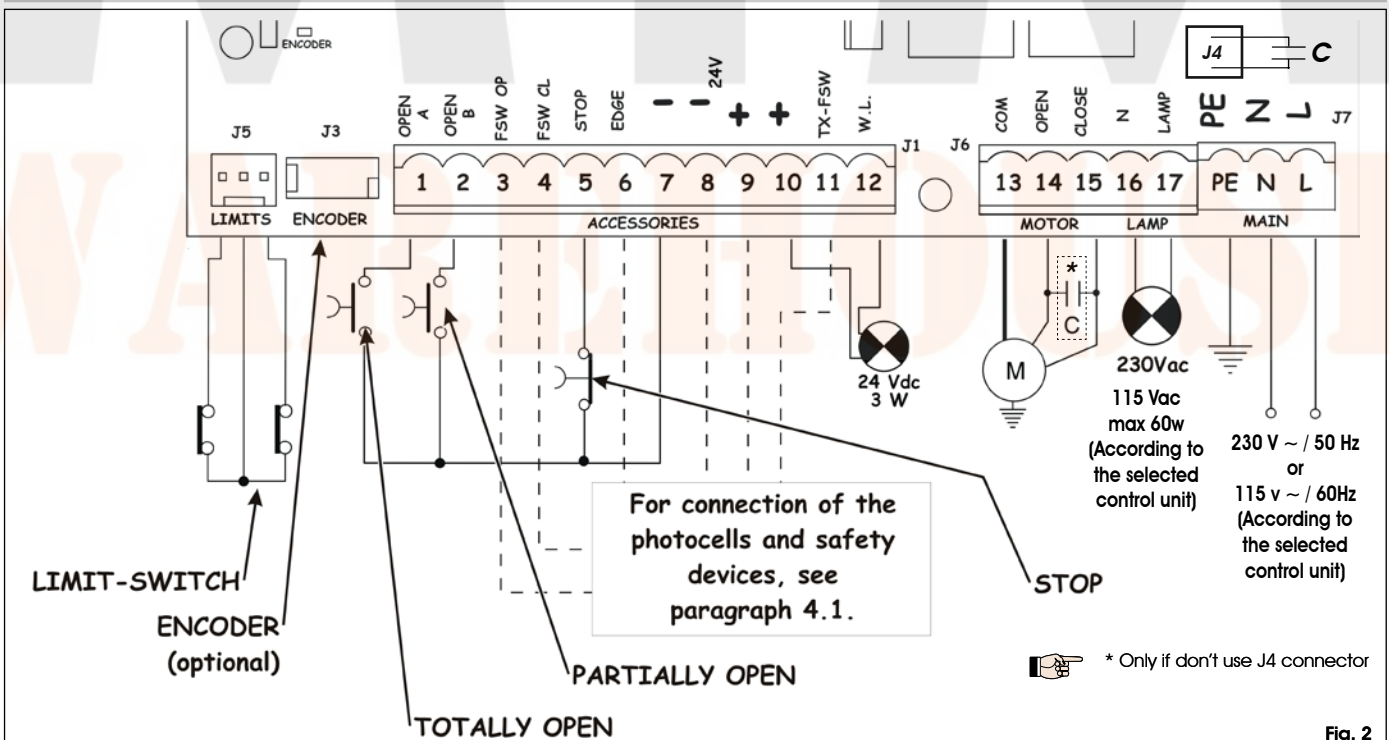

Fig. 2
4.2. J7 Terminal board - Power supply (fig. 2)	page.14
4.3. J6 Terminal board - Motors and flashing lamp (fig. 2)	page.14
4.4. J1 Terminal board - Accessories (fig. 2)	page.14
4.6. Connector J6 - Limit-switches rapid connection (fig.2)	page.15
4.7. Connector J3 - Encoder rapid connection (fig.2)	page.15
Connect the earth cable to the appropriate terminal on the J7 connector of the equipment (see fig.2).
4.2. J7 Terminal board - Power supply (fig. 2)
4.3. J6 Terminal board - Motors and flashing lamp (fig. 2)
4.4. J1 Terminal board - Accessories (fig. 2)
4.6. Connector J6 - Limit-switches rapid connection (fig.2)
This input is intended for rapid connection of the opening and closing limit-switches designed to stop the leaf, or for start of decelerations or for braking (see advanced programming in Chpt. 5.2.). In gearmotors with a built-in control unit, this connection is pre-wired as standard (fig. 2). For leaf opening direction, see advanced programming in Chpt 5.2.
4.7. Connector J3 - Encoder rapid connection (fig.2)